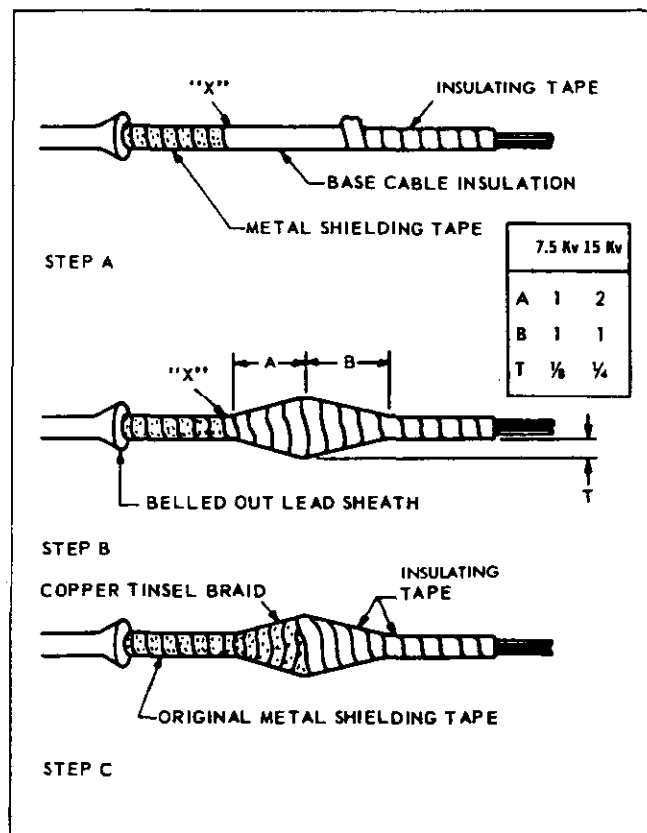

Fig. 16 – Typical pothead cable connections.
Determine the length of each conductor to extend from the position of the wiping sleeve or packing gland to the point of connection to the stud terminal. Establish location of stress relief cone on the cable so that it will be approximately in the center of the pothead body. Remove shielding and conducting tapes down to bottom of stress cone (point "X," Fig. 16). Bare the end of the conductor and solder to stud terminal.
5. Remove lead sheath from the cable to point marked, being careful not to damage insulation. Bell out lead sheath as shown in Figure 16. For braided cables remove braid down to point "X."
8. Solder cables solidly into the studs. (For voltages above 7,500, make stress cones on cables as shown in Fig. 16.)